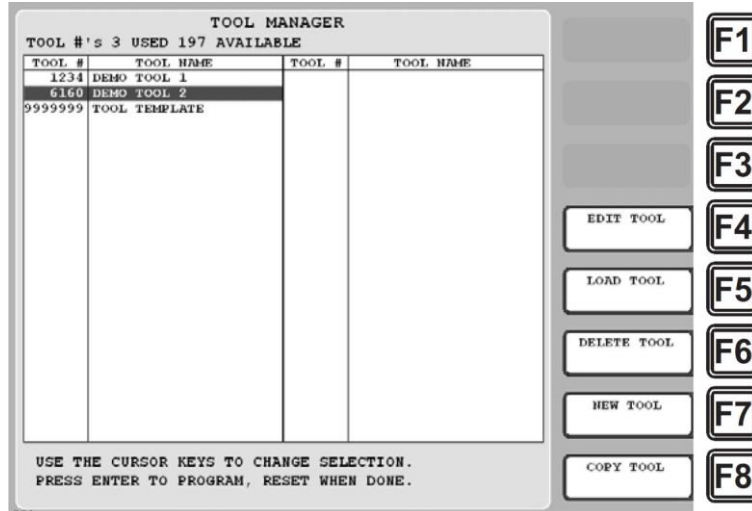
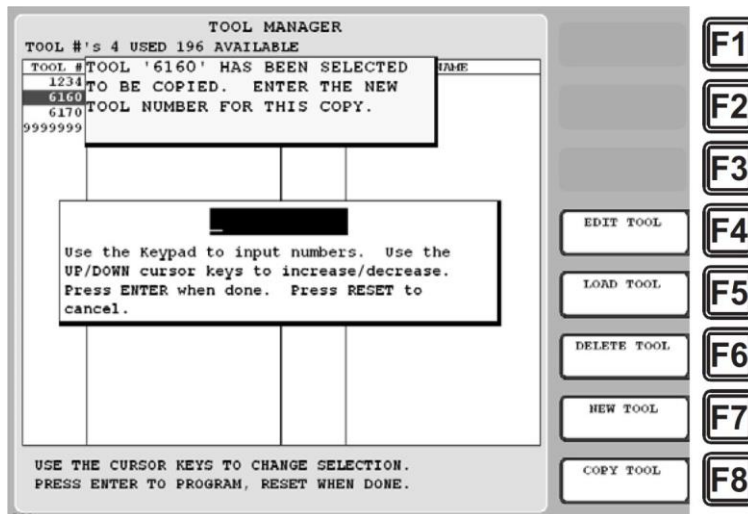

Figure 4-3. Tool Manager Screen
Figure 4-8. Tool Manager Screen with Copy Tool Message and Numeric Entry Window Displayed
2. Select “GO TO THE TOOL MANAGER” to display the Tool Manager screen (see Figure 4-3).
You can also load the tool from the Tool Manager screen (see Figure 4-3) by pressing F4 (Load Tool) with the desired tool selected.
1. On the Tool Manager screen (see Figure 4-3), select the tool you want to copy, and press the F8 (Copy Tool) function key. A message and Numeric Entry window display above the Tool Manager screen, as shown in Figure 4-8.